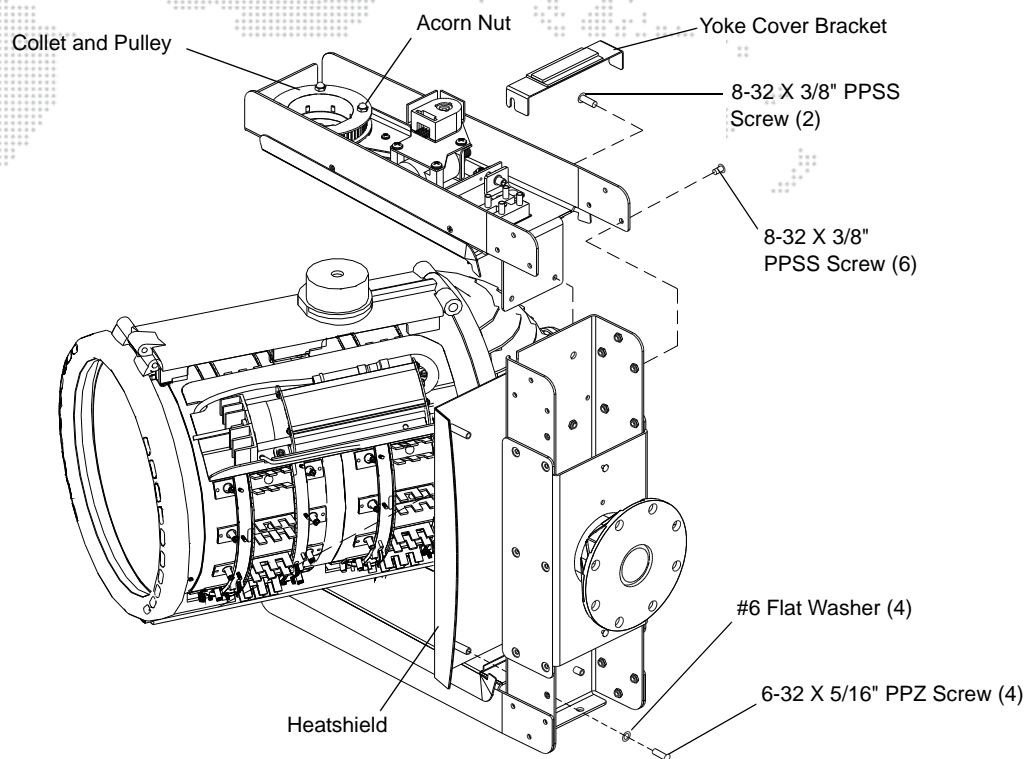

Figure 2-15: Separating VL5Arc Head and Yoke Assemblies
- a. At top yoke cross member, using #2 Phillips screwdriver, remove four 6-32 X 5/16" PPZ screws and four #6 lock washers securing heatshield to yoke cross member, and remove heatshield. **Figure 2-15.**